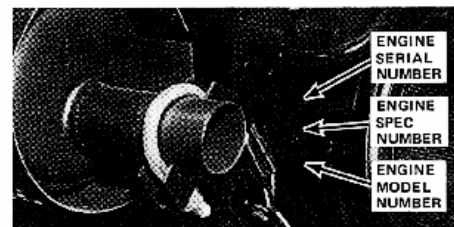

FIGURE 2
3. Model number of engine. (Fig. 2) HH-140
4. Serial number of engine. (Fig. 2)
5. Spec. number of engine. (Fig. 2) 160001